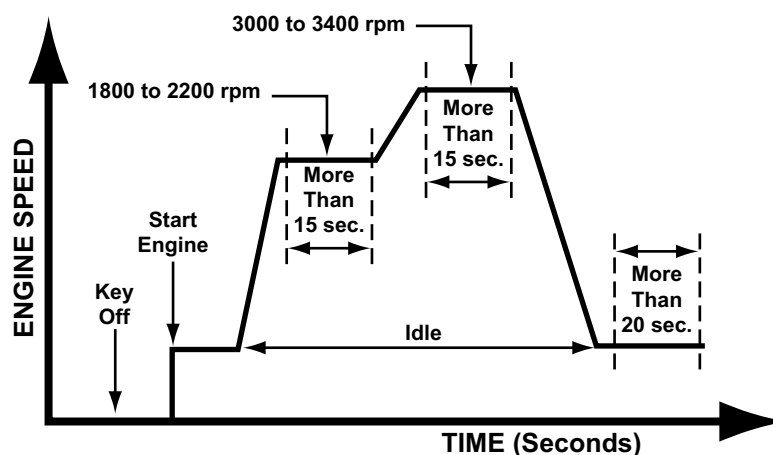

Figure MA000-38
3. Perform no load racing at RPM shown in Figure MA000-38, then idle engine for more than 20 seconds after cooling fan has stopped. If possible, monitor RPM PID and FAN2 PID (with A/C), FAN1 PID (without A/C) for cooling fan status during this procedure.